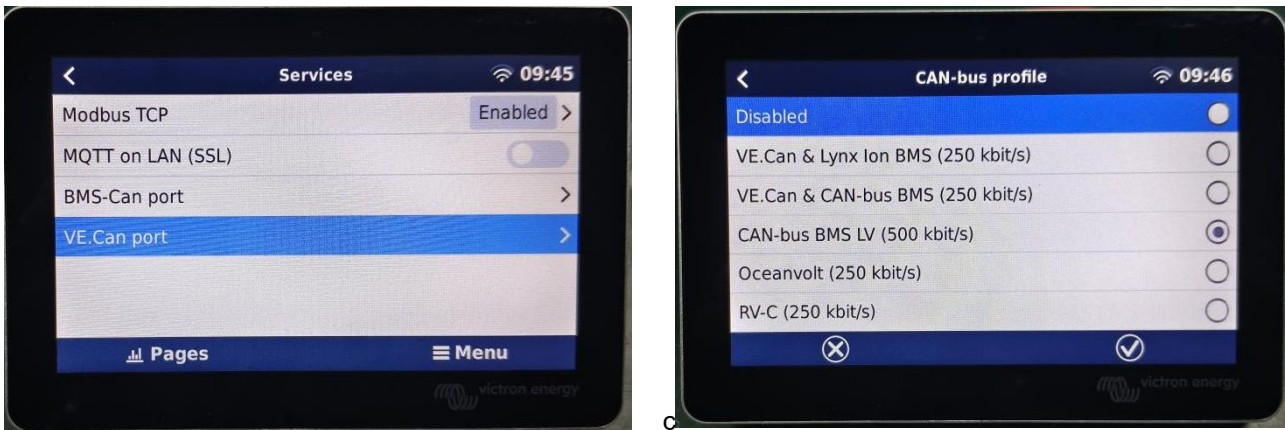

Figure 3.3 Cerbo GX Setup
2. As shown in the Figure 3.3, follow below steps to set up inverter.